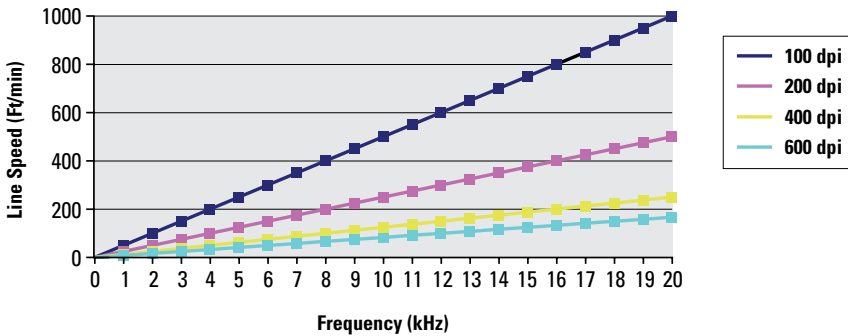

Figure 2: Line speed vs. jetting frequency for various in-process addressability
- **Jetting frequency** - At the desired line speed and required print addressability, does the proposed jetting technology meet your requirements? (See Figure 2)